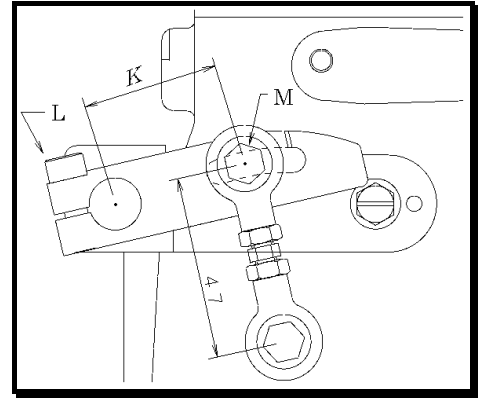

Fig 6
The adjustment should be made by opening top cover and adjust the timing pulley position after loosening screw (A). See Fig 6.